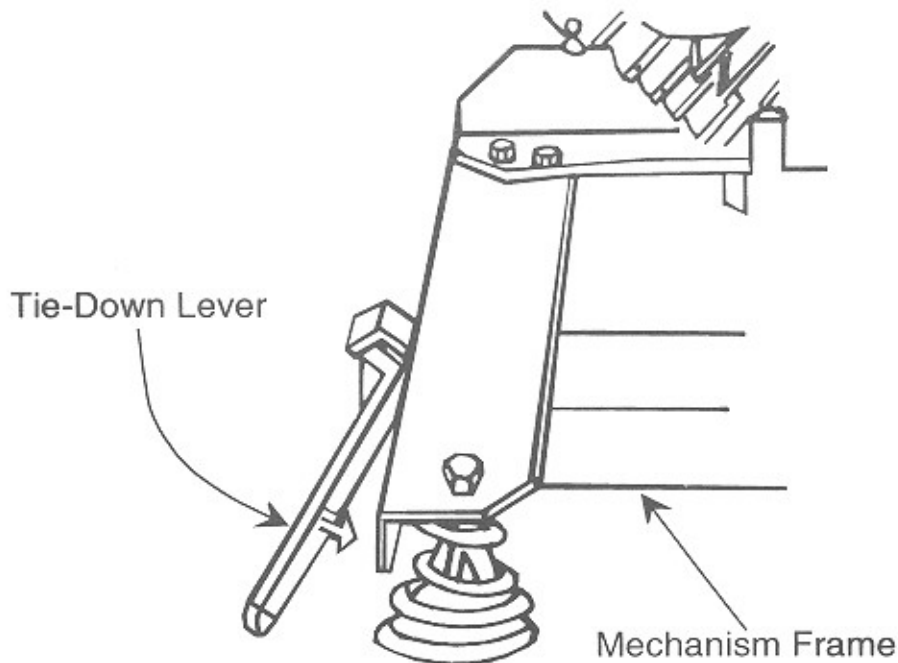

Figure 1-4. CD Changer Tie-Down Levers
2. Remove the shipping tape from the front ends of the mechanism tie-down levers on the side of the mechanism frame (See Figure 1-4).